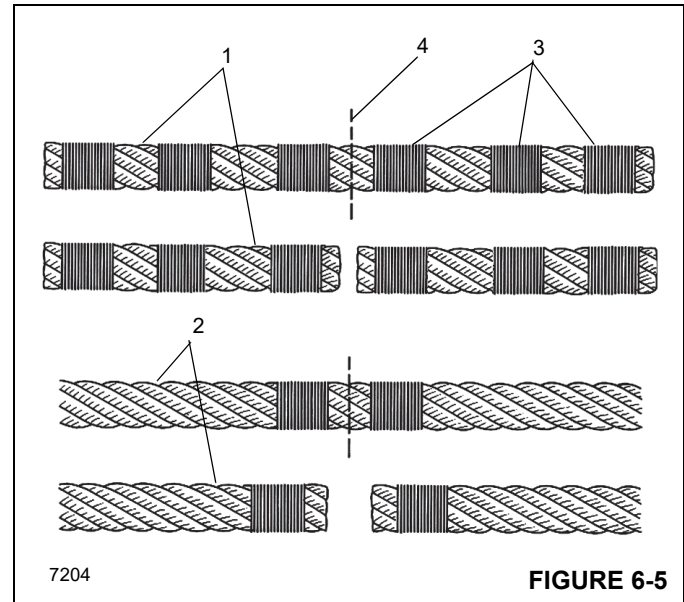

FIGURE 6-5
NOTE: Non-preformed wire rope (1) (Figure 6-5) should have three seizings (3) located on each side of the cut (4) as compared to preformed wire rope (2).